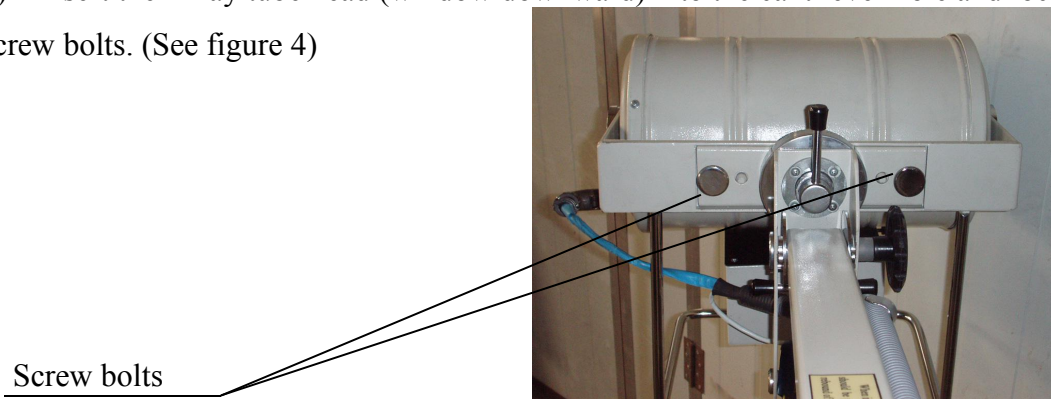

Figure 4
3) Insert the X-ray tube head (window downward) into the cantilever hole and lock tightly two screw bolts. (See figure 4)